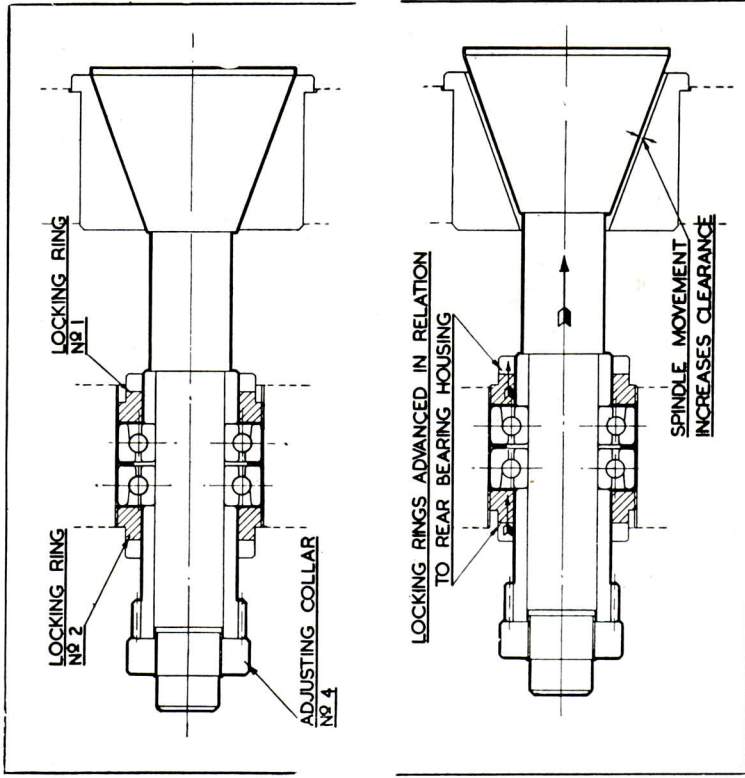

Fig. 37. Showing spindle movement exaggerated.
Rotate locking ring (1) using the 'C' spanner provided, the top of the locking ring being turned towards the operator. Rotate locking ring (2) in the same direction until the ball bearings contact the locking ring (1) and the outer races are again locked together. This procedure moves the ball bearings and spindle bodily forward to a position free of the front bush as shown in Fig. 37.